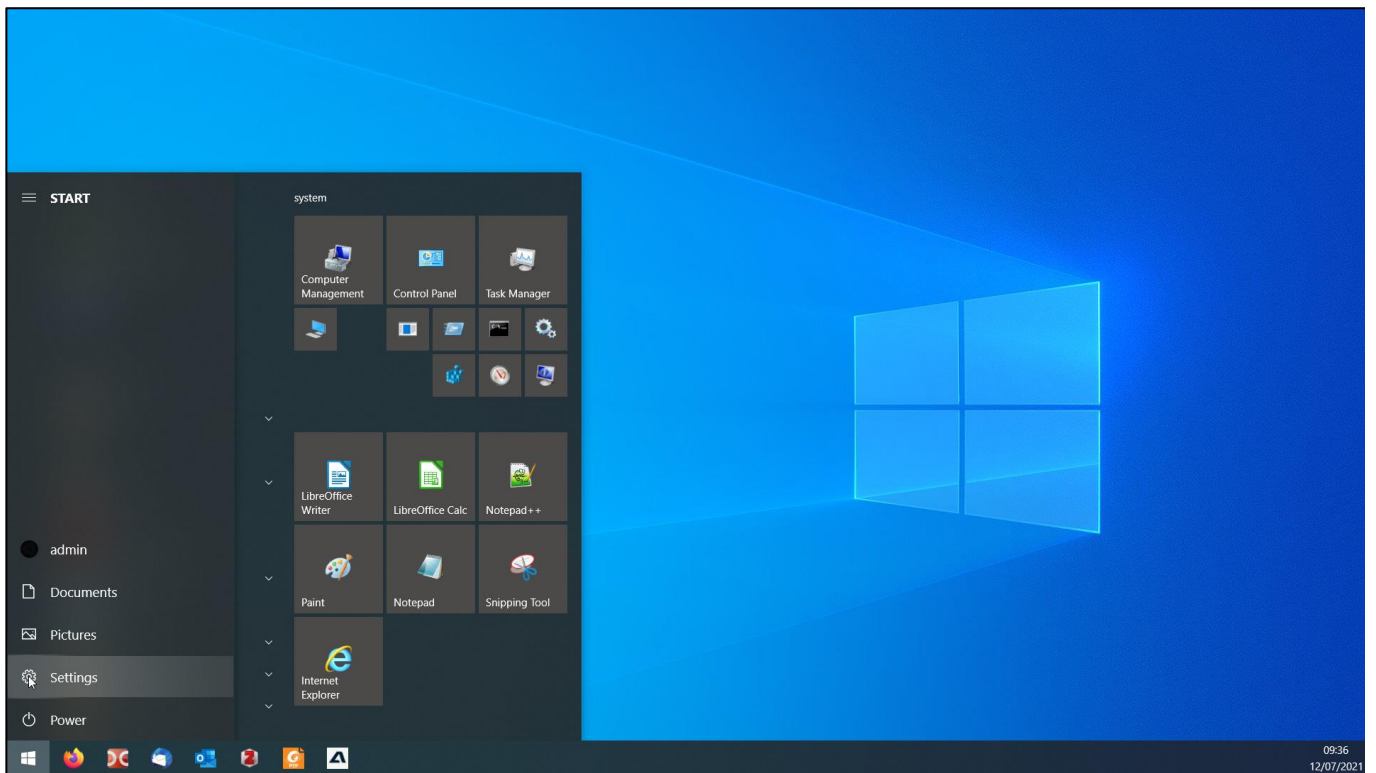

Fig. 1 Going to the settings window from the Windows 10 start menu.
1. From the Windows 10 start menu, select *"Settings"* (Fig. 1).